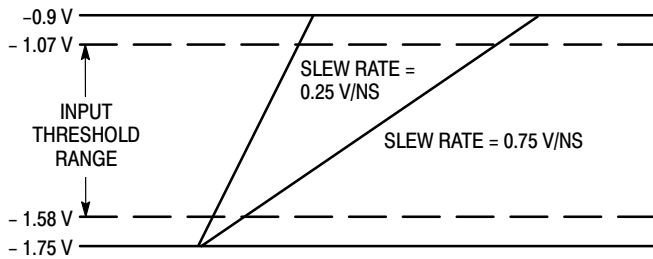
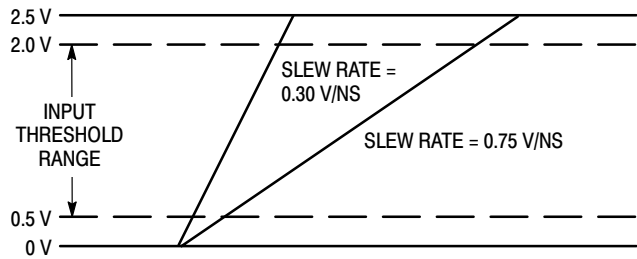

Figure 4. ECL Dispersion Test Input Conditions
Figure 5. TTL Dispersion Test Input Conditions
9. Refer to figure 4 and note that the input is at 850mV ECL levels with the input threshold range between the 20% and 80% points. The delay is measured from the crosspoint of the input signal and the threshold value to the crosspoint of the Q and \overline{Q} output signals.
12. Refer to Figure 5 and note that the input is at 2.5 V TTL levels with the input threshold range between the 20% and 80% points. The delay is measured from the crosspoint of the input signal and the threshold value to the crosspoint of the Q and \overline{Q} output signals.
Figure 4. and Figure 5. define a range of input conditions which incorporate varying input slew rates and input voltage overdrive. For input parameters that adhere to these constraints the propagation delay can be described as: